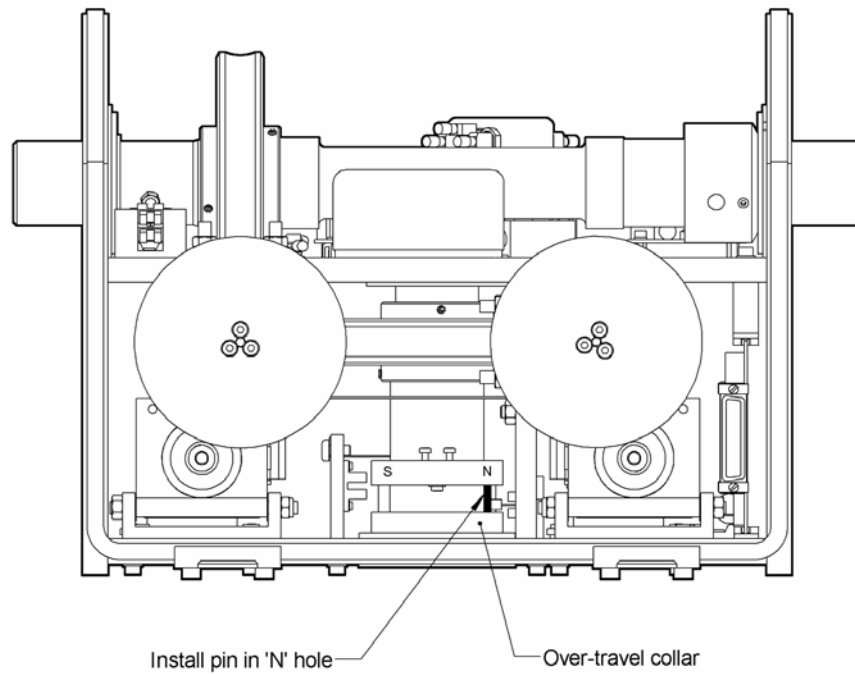

Figure 4.4: 360° Limit Pin Installation (North of tropics).
- Remove the 2AP cover. While viewing the unit from the front (see figure 4.4 or 4.5), rotate the over-travel collar in a clockwise direction (if >25° N) or in a counter-clockwise direction (if >25° S) until the collar is stopped by the azimuth reference sensor blocker.
- See figure 4.4 or 4.5 on how to install the Limit Pin for North and South of the tropics respectively. Install the supplied pin (located with the spare fuses) in the appropriate hole in the over-travel collar. These are identified with an “N” stamped on the outside of the over-travel collar for the Northern Hemisphere and an “S” for the Southern Hemisphere.